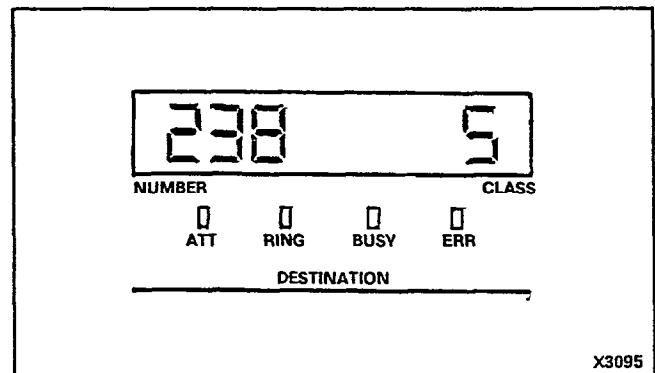

Figure 4-5 Destination Display
4.33 DESTINATION: The DESTINATION display (see Figure 4-5) holds eight 7-segment and four LED displays which provide the following information on all calls made from the console: